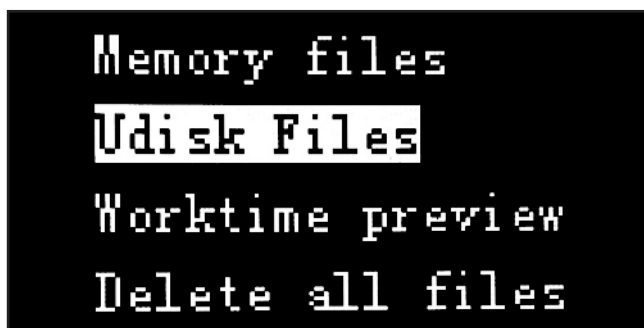

Figure 42. "Udisk Files" selected.
7. Use arrow nav buttons to select "Udisk Files" then press Enter (see **Figure 42**).